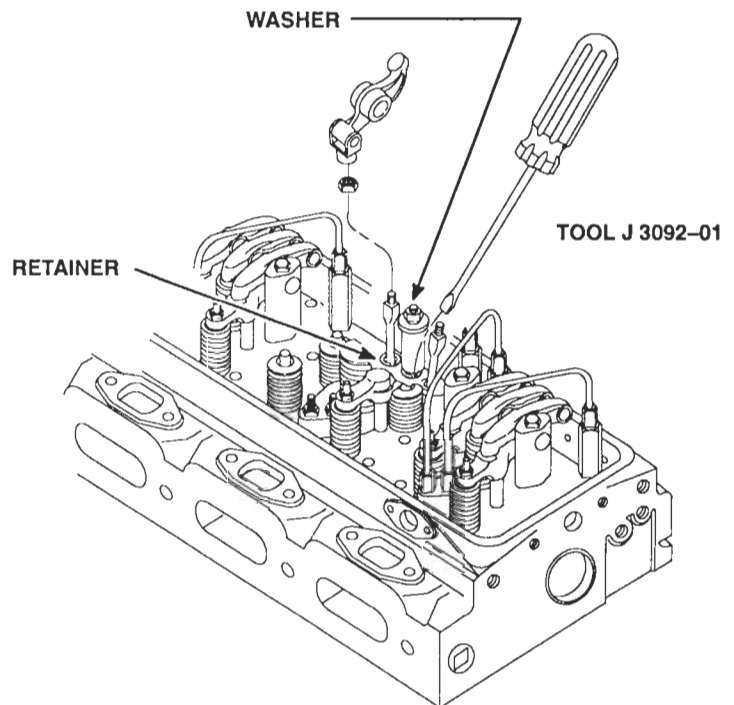

Figure 2. Removing Push Rod from Upper Side of Cylinder Head
5. Remove the spring seat retainer from the groove in the cylinder head (Figure 2.)